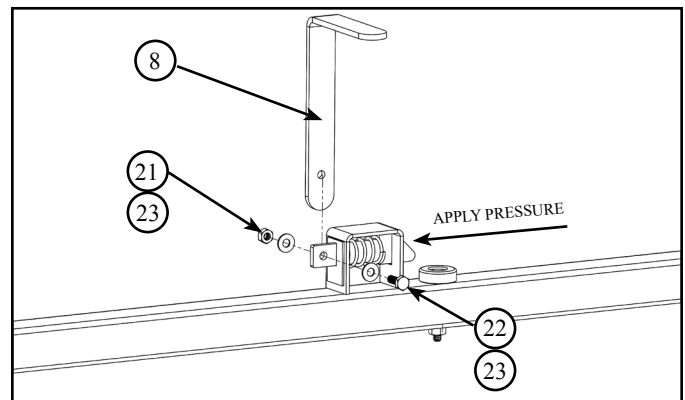

Figure 3.10 - Bed Latch Hole Alignment
8. Apply pressure to the latch bar to expose the latch hole. *Refer to Figure 3.10*
9. Align latch handle (8) with latch hole and insert bolt (22) and washer (23). *Refer to Figure 3.10*